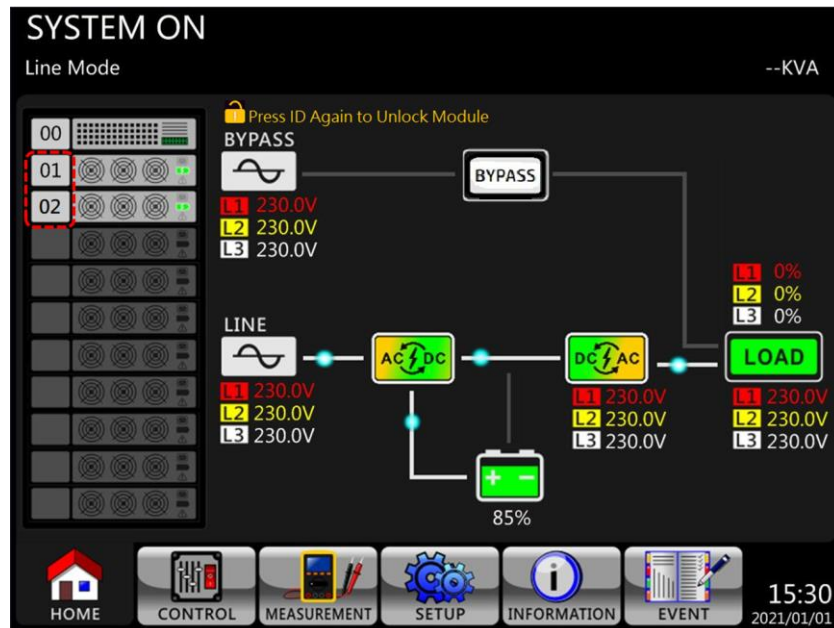

Figure 7-2 The Screen of the Power Module working normally
2. If modules are working normally, press Module ID (marked in red square) twice in 3 second to turn it off on LCD Main page as shown in Figure 7-2.